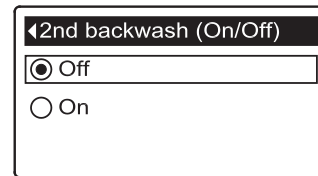

FIG. 130
- 8b. **Second backwash (On/Off):** If the desired option already has a black dot next to it (See Figure 130), go to Step 9. Otherwise, press the DOWN (▼) or UP (▲) buttons to scroll to the other option, then press SELECT (O) to choose it. Setting this feature On adds a second backwash and rinse at the beginning of the recharge cycle. Default is Off. Set this feature On if your water supply contains a lot of sediment or iron.